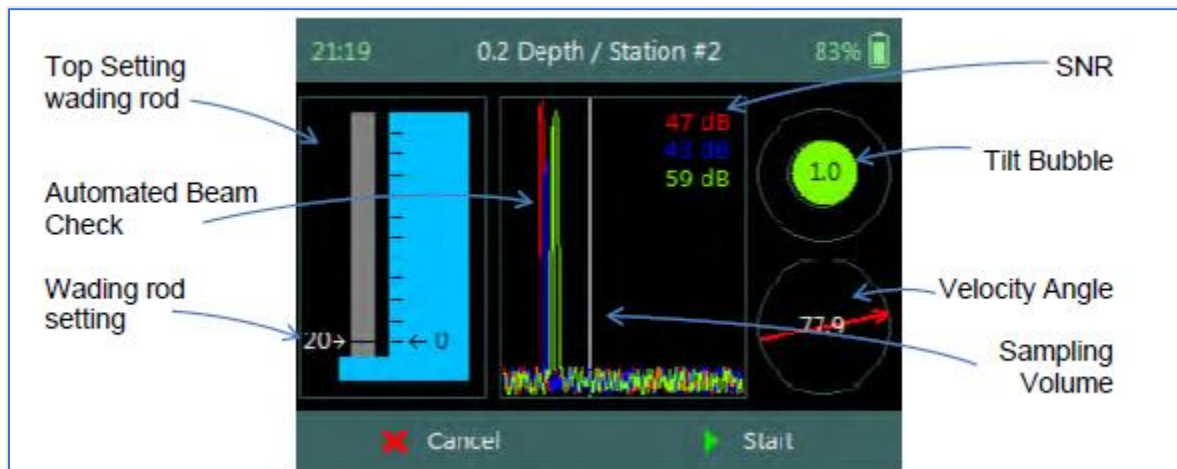

Figure SOP 24.10. The screen displayed when setting the fractional depth of the probe, including the wading rod setting, tilt bubble, and velocity angle.
3. At this point the FlowTracker2 will indicate how to line up the wading rod to position the probe at the correct depth. Match the diagram shown on the left side of the screen with your wading rod by gripping the handle and sliding the thin pole up or down so that the numbers align as on the diagram (Figure SOP 24.10).